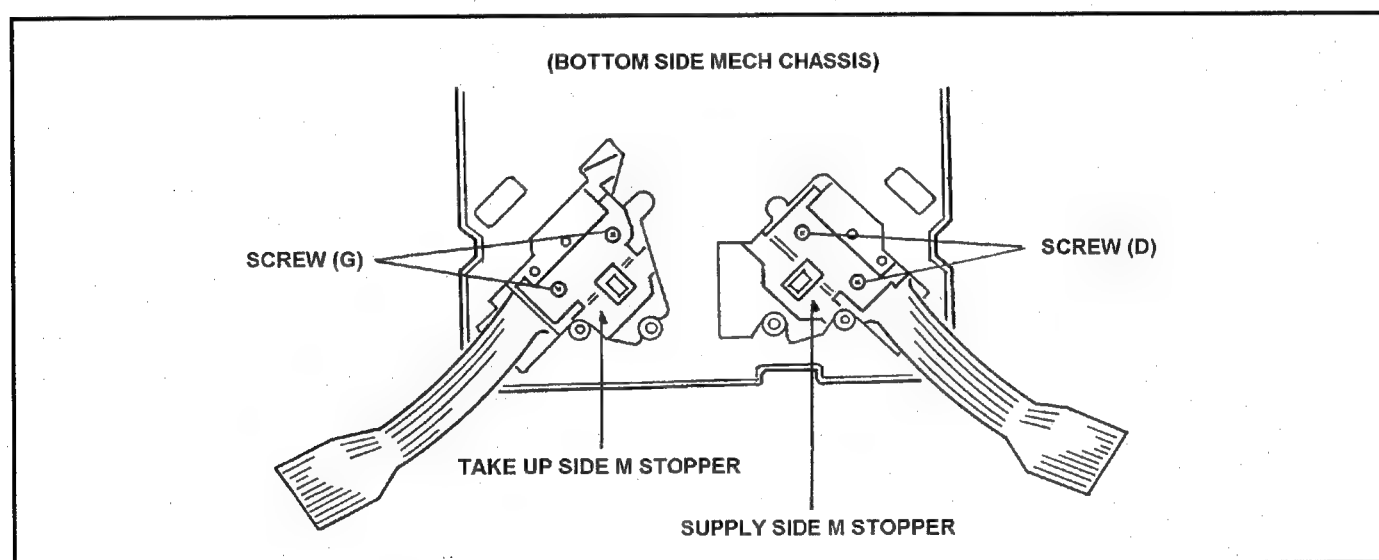

Fig. 10-3-3 Removal of Supply & Take Reel Rotor Unit
9. Unscrew the **2 screws (D)** to remove the S-Side M Stopper from Supply Reel Rotor Unit as shown in Figure 10-3-3.
6. Unscrew the **2 screws (G)** to remove the T-Side M Stopper from Take Up Reel Rotor Unit as shown in Figure 10-3-3.